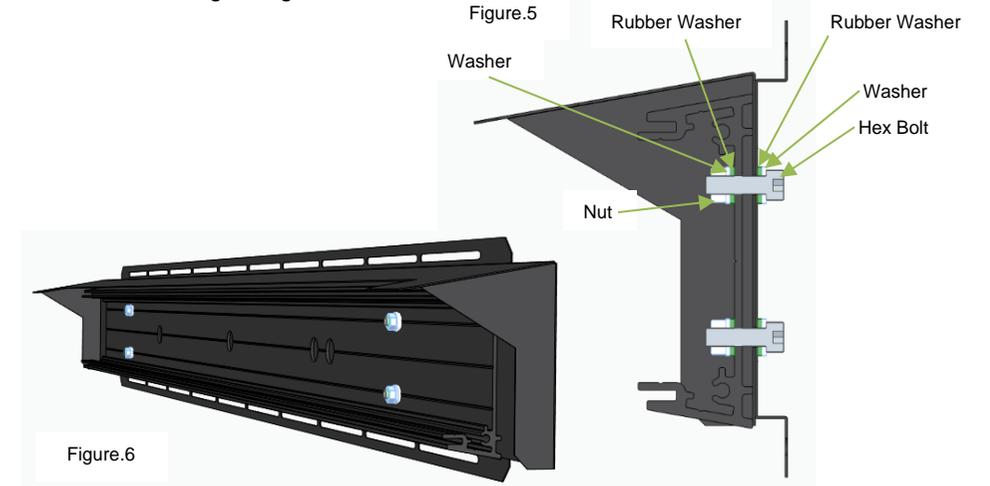

Figure.6
2. Nut and bolt the cover to the product extrusion as shown in (Fig.5) there are 4 bolts to be fitted (Fig.6). Ensure that the rubber washers are not overtightened and give a good seal.